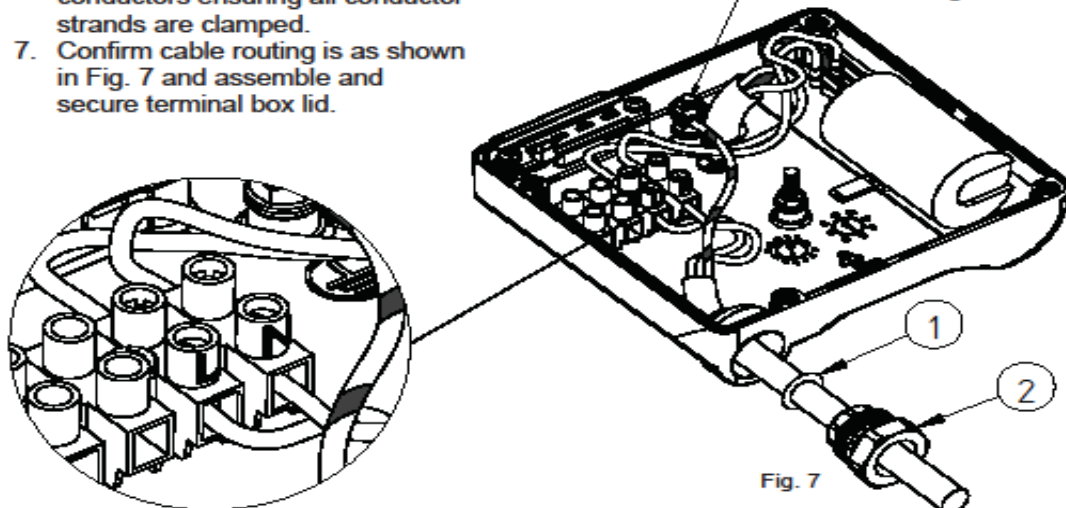

Fig. 7
The cable gland assembly Fig. 7 (items 1 & 2) provides the necessary protection against ingress of solid objects and moisture as well as providing cable retention.
3. Disassemble cable gland as shown in Fig. 7 and insert cable into position ensuring 'O'-ring (item 1) is placed over the cable before the clamping insert (item 2) is tightened.
7. Confirm cable routing is as shown in Fig. 7 and assemble and secure terminal box lid.